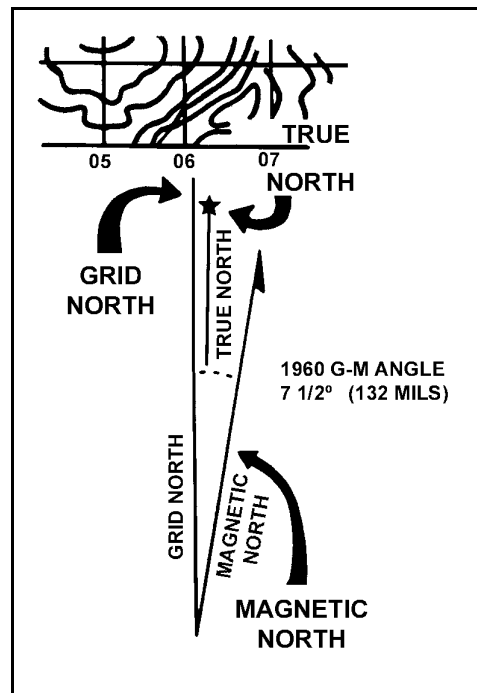

Figure 7-2. Declination diagram.
(7) *Direction entry (display-selectable)*. Select the sequence switch and the display shows: **E W GD: _ _ _**. This display is one example of a direction entry with an amount. East (E) or west (W) must be selected from the display before filling in the underlined blanks for grid declination.
(a) Locate the grid declination (GD) in the map sheet legend of the area of operations. Before entering the GD, round it off to the nearest 10 and express it in tenths—for example, the GD of 132 is 130; expressed in tenths is 13 (Figure 7-2).